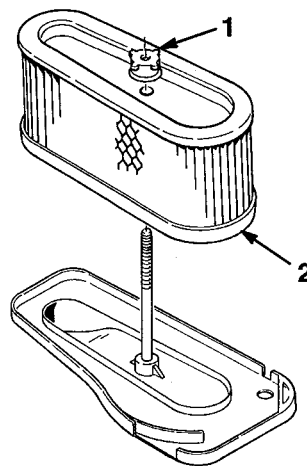

Figure 14
5. Unscrew the rubber nut and remove the paper element (Fig. 14).
2. Slide the air cleaner assembly onto the long rod. Now screw the rubber nut finger-tight against the air cleaner (Fig. 14).